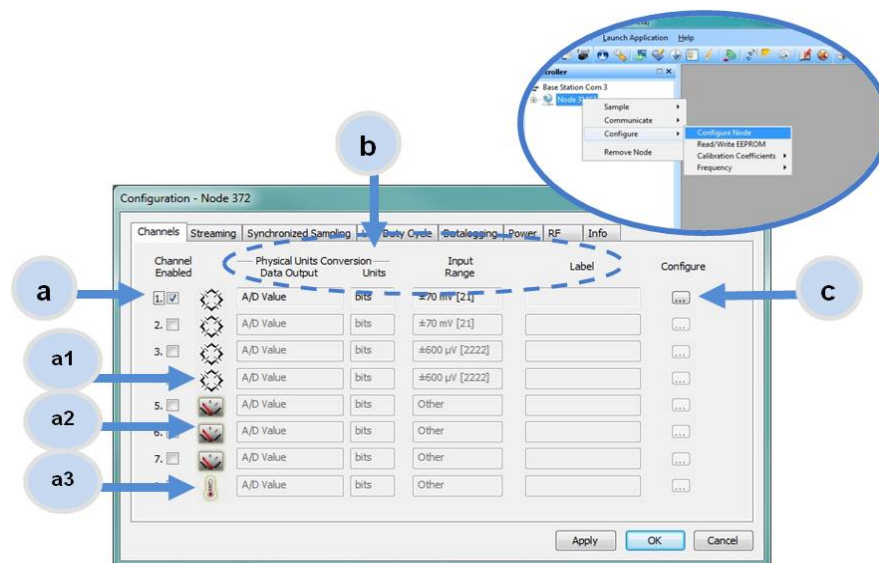

Figure 7 - Node Channels Menu
- a. **Channel Enabled:** indicates the sensor channel number. The check box is used to enable the channel and select it for sampling. The icon next to the check box describes the channel type inherent to the node being used. In the following example (*Figure 7 - Node Channels Menu*): a1) analog differential channel icon, a2) analog single ended channel icon, and a3) temperature channel icon.
2. To enter the channel configuration menu, select the Configure button as shown in Figure 7 - Node Channels Menu. The menu options available on the channel configuration page varies depending on the node and sensor type selected. This is an example with a V-Link[®]-LXRS[®].